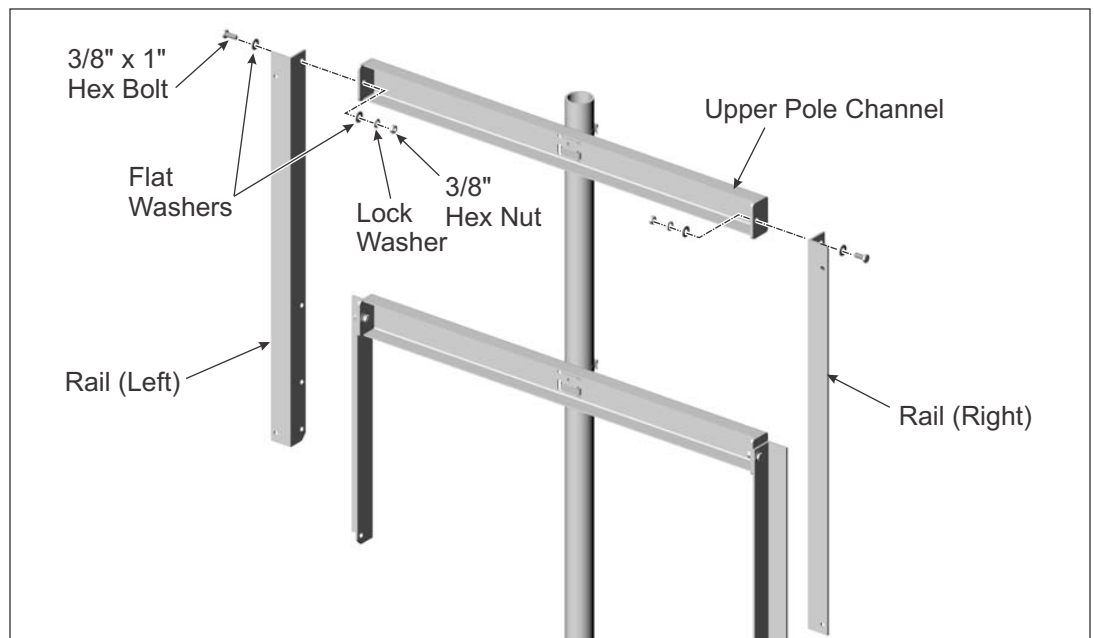

Figure 3-1: Attaching Rails to Pole Channel
The two Module Rails are attached to the ends of the upper Pole Channel using 3/8" x 1" hex bolts and hardware. (See Figure 3-1)
- A. Orient and align the left Module Rail as shown in Figure 3-1. Secure with one 3/8" x 1" hex bolt, lock washer, flat washers, and Hex Nut. Finger tighten for now.
- A. Place the Module on the Module Rails. While one person holds the Module in place, align the mounting holes and secure with 1/4" x 3/4" bolts and hardware. Each Module has four attachment points. **Torque to 6-8 ft.-lbs.** (See Figure 3-1)